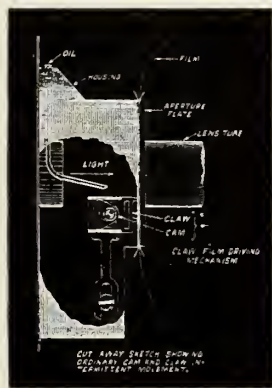

Fig. 4
1. The claw is an up and down, in and out movement, illustrated in Figure 4, exerting sudden pulls upon the perforations that inevitably lead to torn sprocket holes, whereas, the rotary sprocket turns the teeth gradually into the perforations, without strain on the perforations themselves.